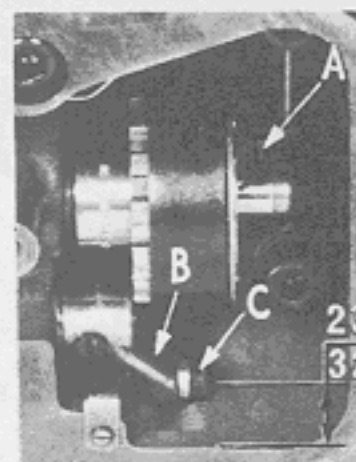

Fig. 31
Drain machine of oil and remove the bottom reservoir cover. Set the machine at zero stitches per inch. Loosen holding screw (A, Fig. 31) and move the stitch regulator plunger lever (B), so the center of screw (C) is  $23/32$  inch above the bottom of the base. Retighten holding screw (A) and replace the bottom reservoir cover. Now adjustment can be made to the reverse feed control lever as described earlier.